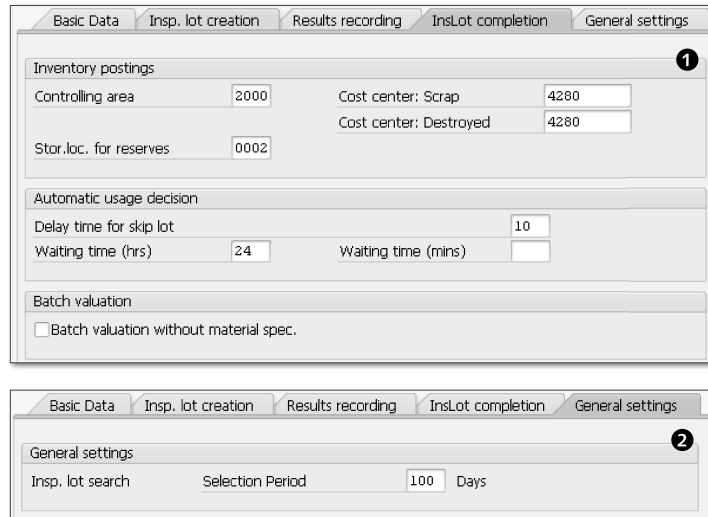

Figure 3.54 Inspection Lot Completion in Plant Settings
Table 3.8 explains the fields of Figure 3.54 ❶. We recommend that you engage your Controlling (CO) resource to help you decide which values go in these fields that will eventually have costing or financial impacts.
Choose GENERAL SETTINGS in Figure 3.54 ❶ to go to Figure 3.54 ❷.
The system uses the value that you enter in Figure 3.54 ❷ to calculate the starting date of the selected time period. You can override this default setting while executing a worklist or report.